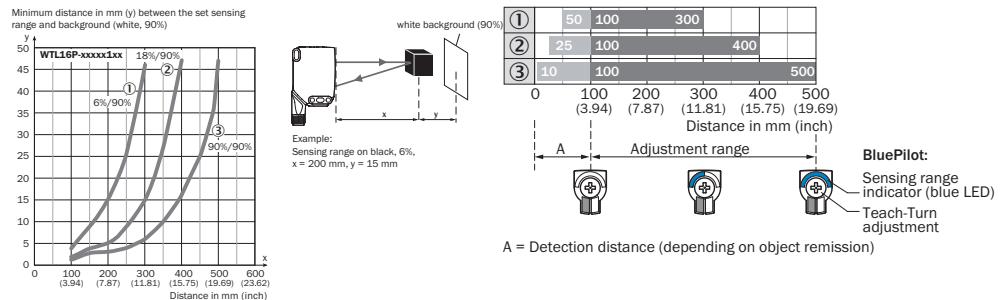
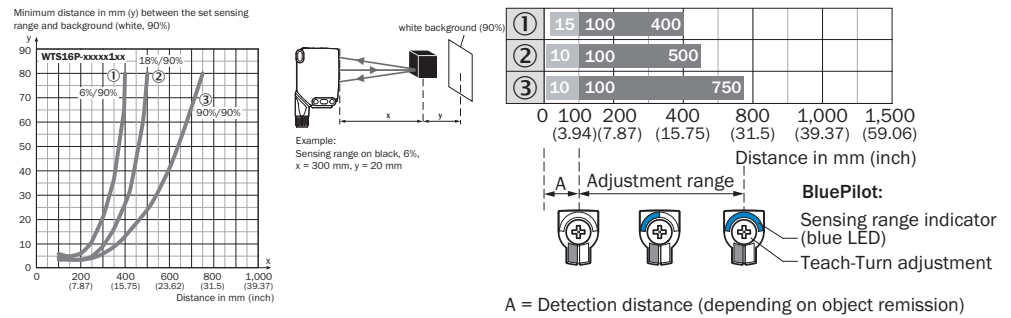

Figure 6: Characteristic line 1, WTL16 Blue-tooth@xxxx1xx, red light
Figure 7: Characteristic line 1, WTS16 Blue-tooth@xxxx1xx, red light
Check the application conditions: Adjust the sensing range and distance to the object or background and the remission capability of the object according to the corresponding diagram [see figure 6 and figure 7] (x = sensing range, y = minimum distance between set sensing range and background (white 90%). Remission: 6% = black ①, 18% = gray ②, 90% = white ③ (referring to standard white as per DIN 5033). We recommend making the adjustments using an object with a low remission.
The minimum distance (= y) for background suppression can be determined from diagram [figure 6①] as follows: